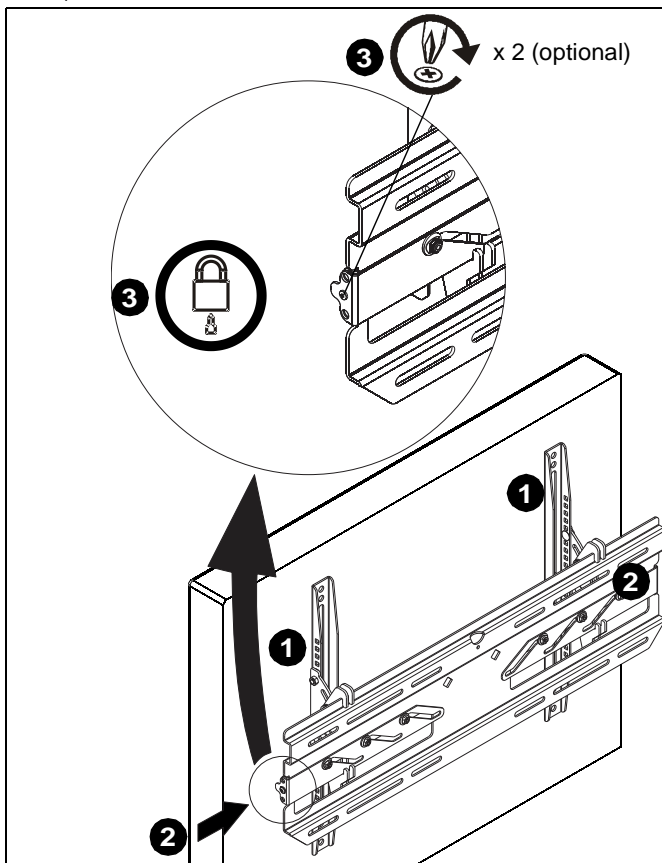

Figure 7
1. Place the display on the wall plate (A) by hooking the hooks of the brackets (B and C) in the top of the wall plate. (See Figure 7)
2. Secure the display by sliding the latches, one on each side, inward. As the latches are slid in, it will lower and catch the bottom hook and secure the television in place. (See Figure 7)
3. If desired, install self tapping screws (not provided) and/or padlocks (not provided) for additional security. (See Figure 7)